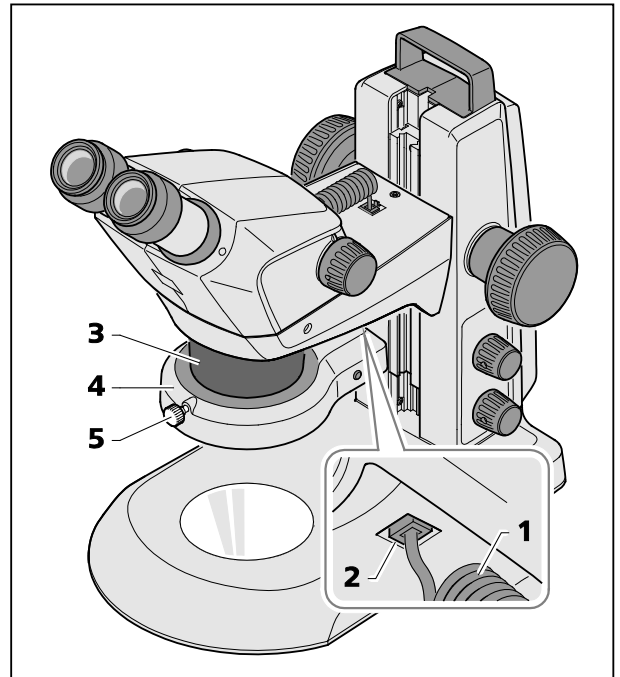

Fig. 13 Mounting ring illuminator on microscope body
- Insert the connection cable (Fig. 13/1) of the ring illuminator (Fig. 13/4) into the lower socket (Fig. 13/2) of the Stemi mount and into the socket of the ring illuminator.
- Push ring illuminator onto the microscope body (Fig. 13/3) from below, and secure using the knurled screw (Fig. 13/5).
- Push the ring illuminator including the adapter up on the front optics and fix it with the clamping screw (Fig. 14/3) (see Fig. 13).